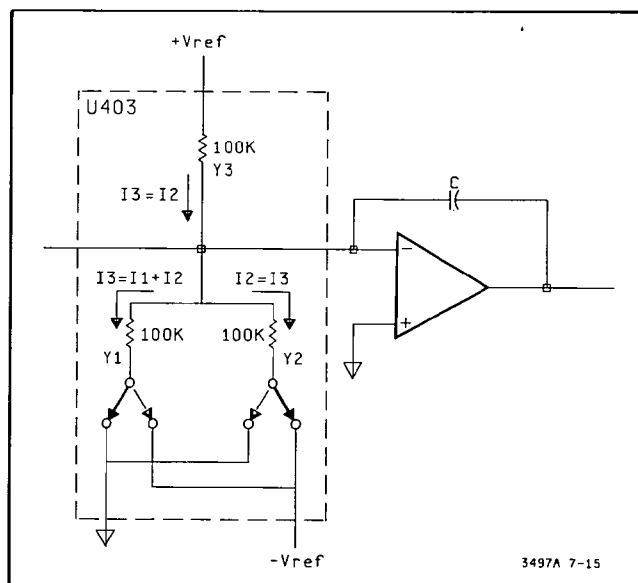

Figure 7-15. Slope S+0 and S-0 Generation
7-166. Slope S+0 and S-0 Generation. Refer to Figure 7-15. Note that one side of a 100K ohm resistor (Y1 path) is connected to ground and the other side is connected to the summing node. Since the 100K ohm resistor from + Vref (Y3 path) and the 100K ohm resistor from -Vref (Y2 path) are also connected to the summing node, no current flows from the integrator capacitor (C). This is because the resistance value of path Y2 and Y3 is the same and makes the current value of paths Y2 and Y3 the same (but opposite polarity). This is true for both slopes S+0 and S-0. The only difference is that paths Y1 and Y2 are switched when the slopes are switched (Y1 to ground and Y2 to -Vref, or Y2 to ground and Y1 to -Vref).
used to develop the S-4, S + 4, etc., currents, and the integrator circuitry. While referring to Figure 7-15, note that +Vref is connected to one side of a 100K ohm resistor and -Vref to one side of another 100K ohm resistor. The other ends of the resistors are connected to each other and also to the integrator. If the absolute values of the + Vref and -Vref voltages are exactly equal and the resistors are also equal, the current going into the integrator is exactly zero. Since the resistors and reference supplies are not exactly equal (they are, however, very stable), a small offset current is generated. This current plus the offset developed by the integrator itself, develops an offset voltage at the output of the integrator. This offset voltage can cause inaccuracies. The A/D Autozero circuitry compensate for that offset voltage.